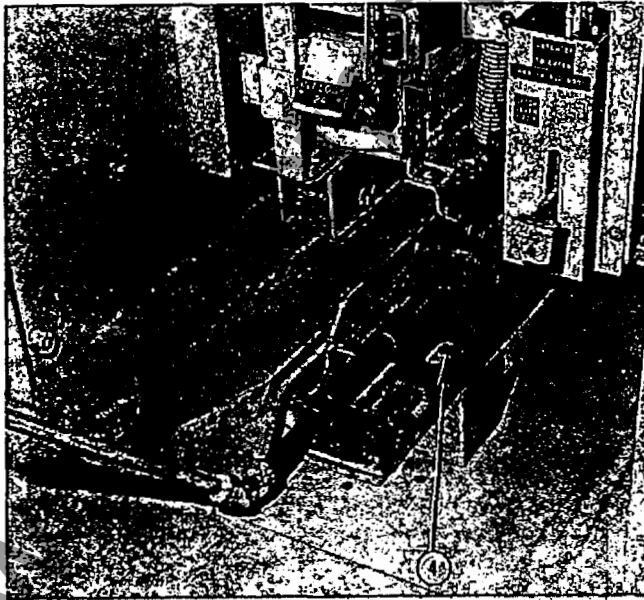

Figure 8 - TEST POSITION LOCK-IN HOLE. Hole (4) which allows ACB to be locked into test position (as shown in figure 7).
Figure 7 - ACB RACKED INTO TEST POSITION. Ring (3) is pulled forward allowing rack-in mechanism rod to drop further into hole (1) on movable block and to drop into hole (4) (See figure 8) in cubicle floor locking ACB in test position.